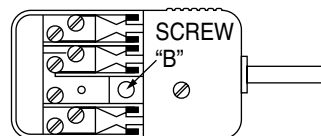

Fig. 2
2. Remove screw "B" and withdraw the plug. (See Fig. 2.)